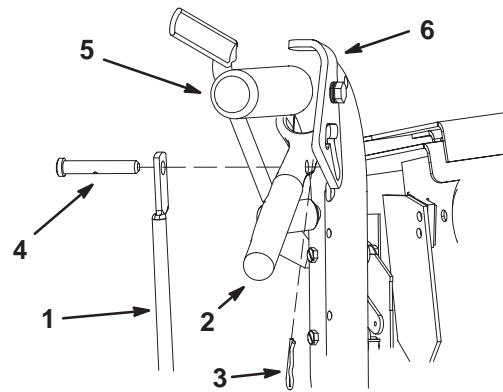

Figure 10
2. Place the clevis pin into the upper part of the control rods, drive lever and neutral/parking brake locks (Fig. 10).
3. Install the hairpin cotter pins between the drive levers and neutral/parking brake locks and into the clevis pins (Fig. 10).